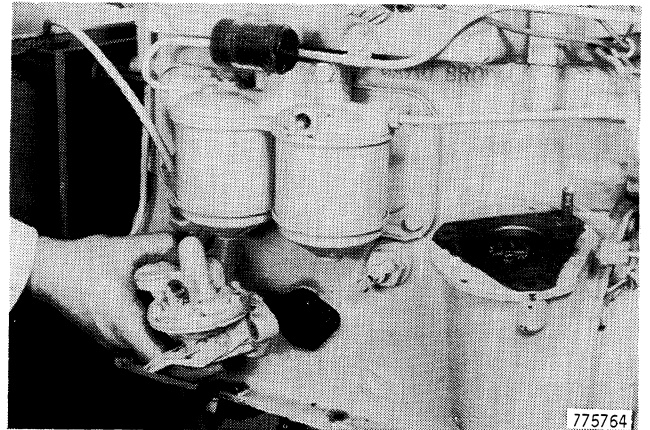

Figure 18
5. Remove the fuel feed pump, Figure 18.